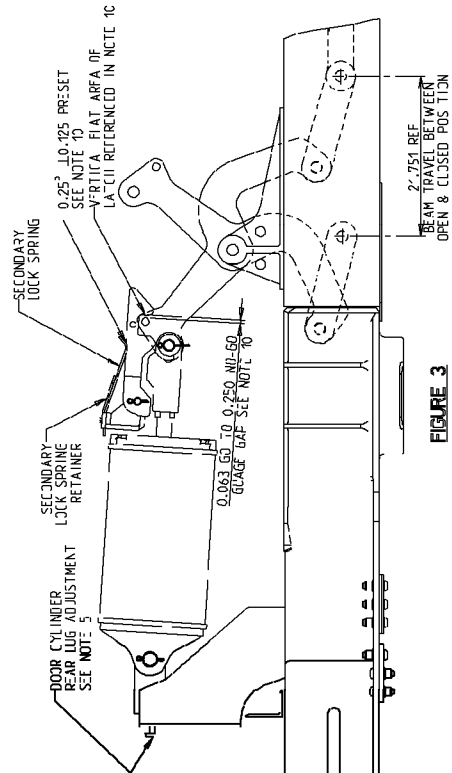

FIGURE 3
- Door cylinder rear lug setting. Lug adjustment nut should be tightened to aid in removing excess play. Link the Door operating links. Typically, rear lug may be adjusted until at least one set of operating links are in contact with the cylinder. It is recommended to use at least 30 PSI on the rod end of cylinder during this adjustment. SEE: FIGURE 3.